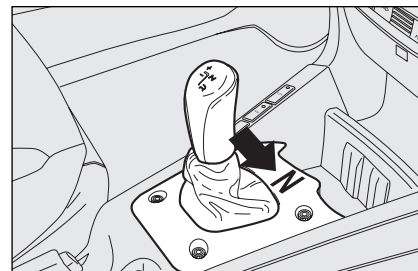

fig. 12
To allow setting to neutral (N), (with the car stationary and brake pedal pressed), move the gearshift lever to the right **fig. 12**.